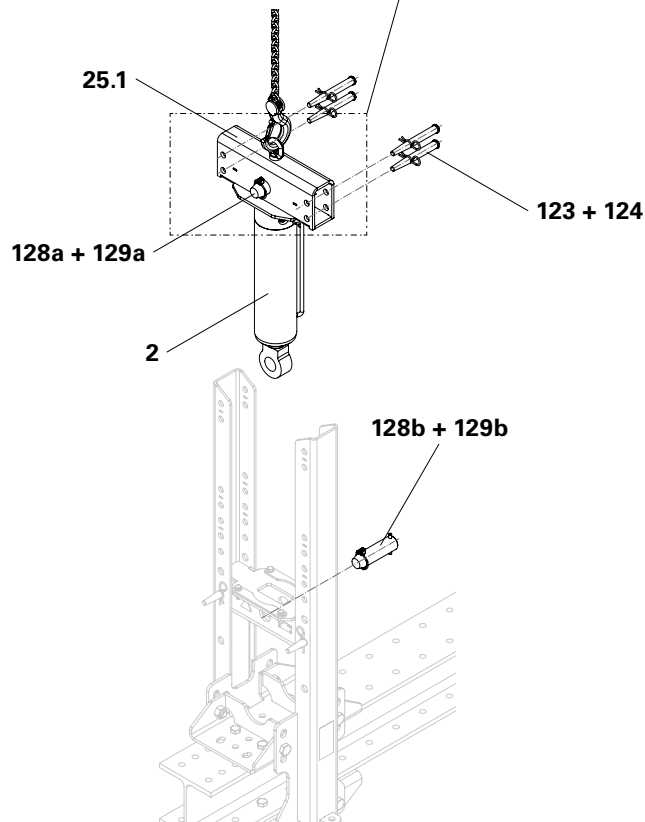

Fig. B5.02
12. Insert fitting pin 21x120 (123) and secure with cotter pin 4/1 (124). (Fig. B5.02)